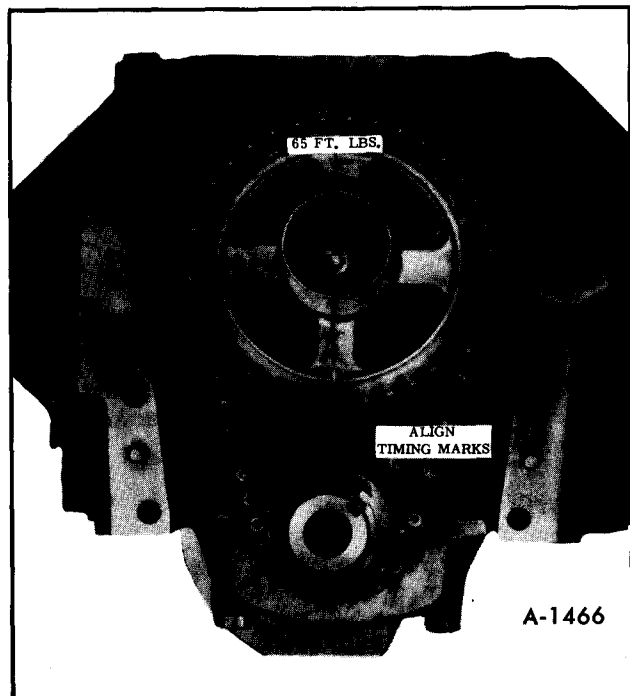

Figure 59—Timing Gear Position
1. Install camshaft gear crankshaft gear and timing chain together, and then align timing marks as shown in Figure 59.
NOTE: When the timing marks are in alignment (Figure 59), number six is at T.D.C. To obtain T.D.C. for number one cylinder, slowly rotate crankshaft one rotation, this will bring the cam mark to the top, number one will then be in the firing position.